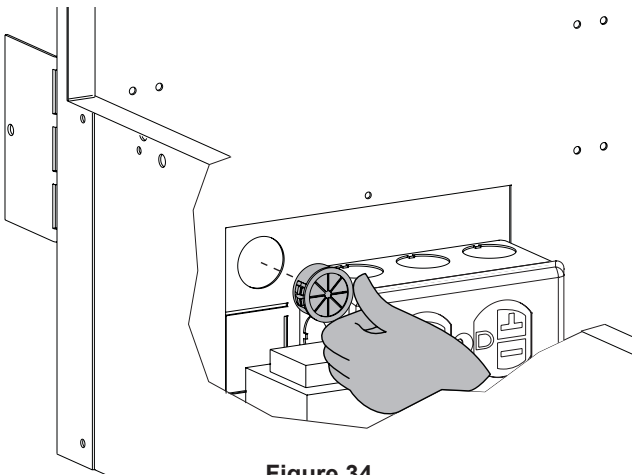
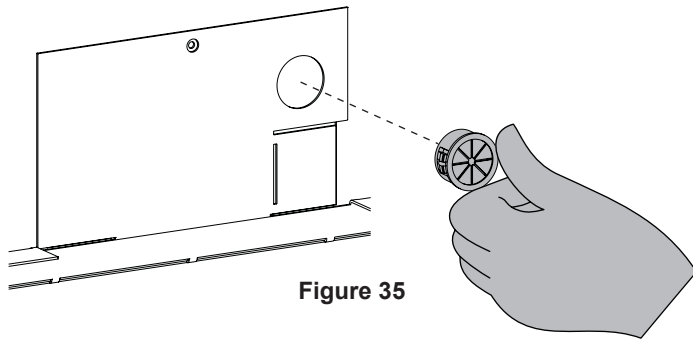

Figure 34
Figure 35
13. Install the provided plastic bushing in the opening where the wires exit the fireplace. See Figure 34 (left side), or Figure 35 (right side).